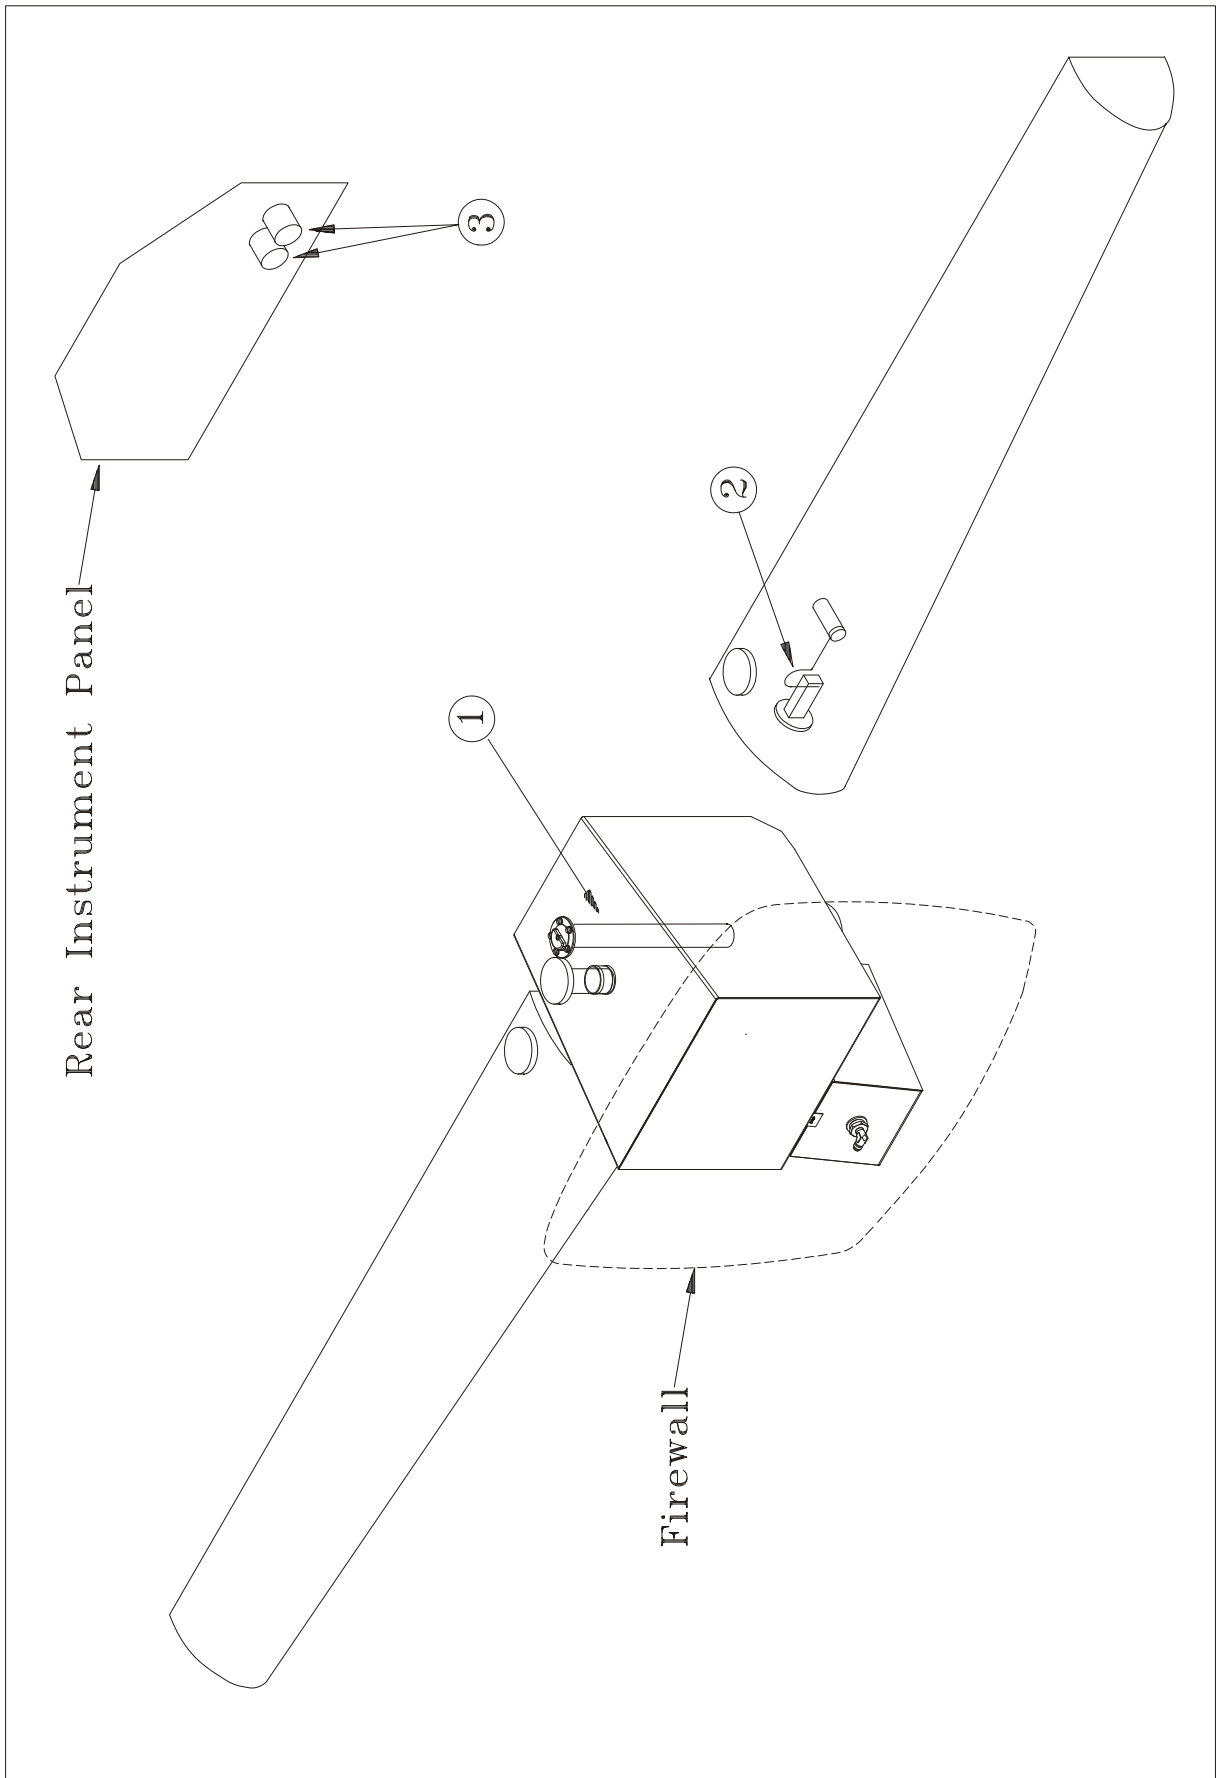

Figure 14
(Refer to Figure 14) For fuel contents indicating the center tank is equipped with a tubular fuel quantity transducer (1) and the left wing tank with a lever-type fuel quantity transducer (2).